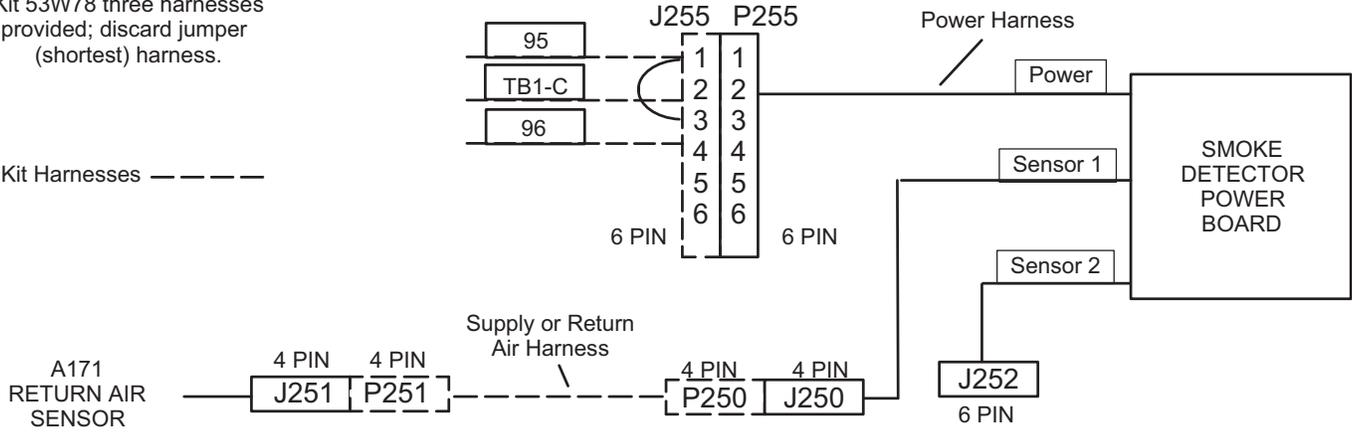
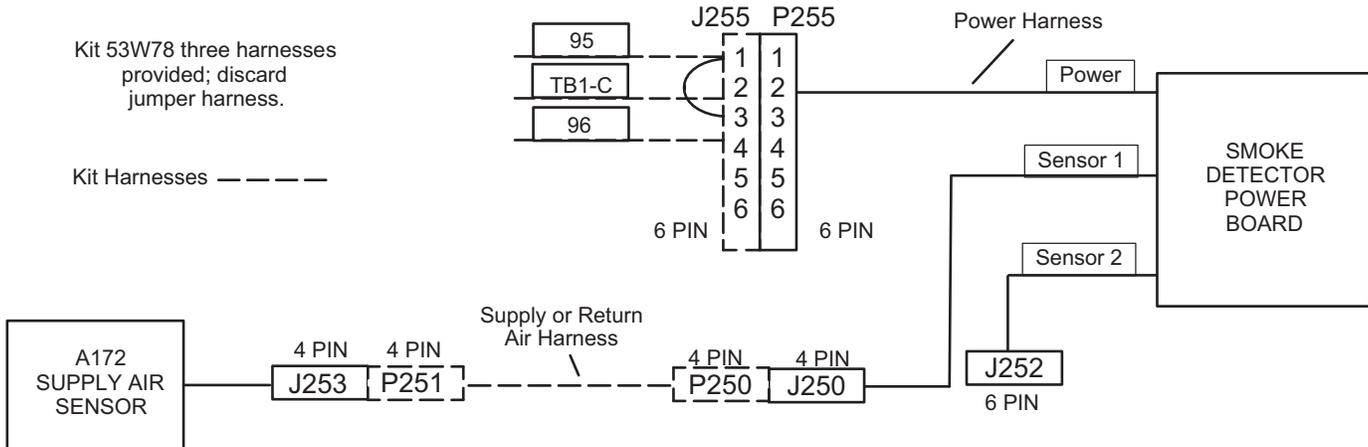
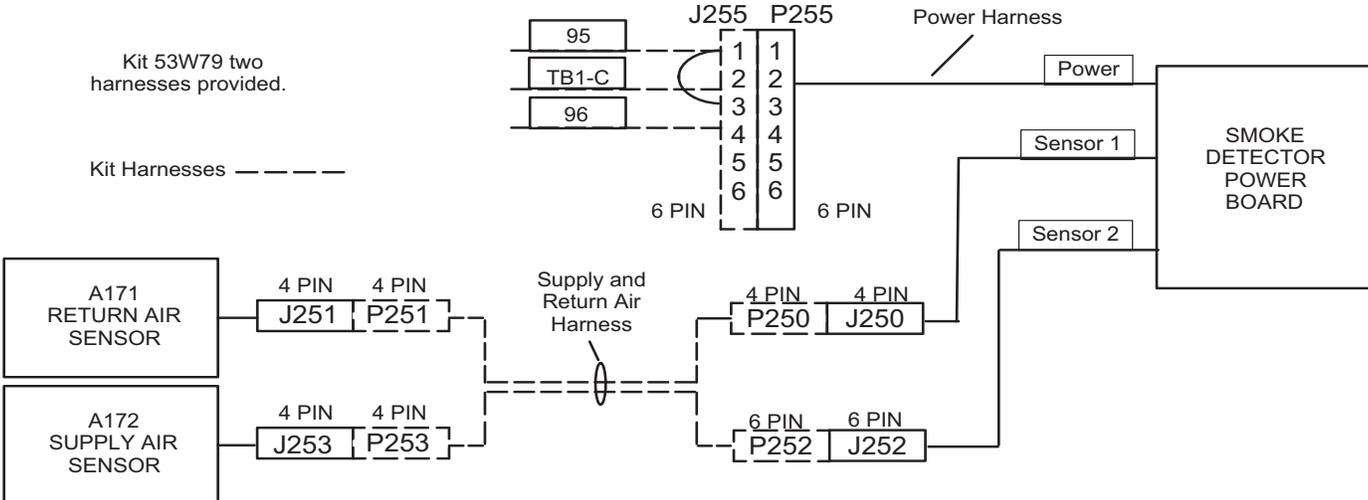

FIGURE 9
FIGURE 10
FIGURE 11
- 4 - Make jack/plug connections as shown in FIGURE 9 when installing return air smoke detector only, FIGURE 10 when installing supply air smoke detector only, and FIGURE 11 when installing both supply and return air smoke detectors. Refer to respective wiring diagrams in FIGURE 12, FIGURE 13, and FIGURE 14.